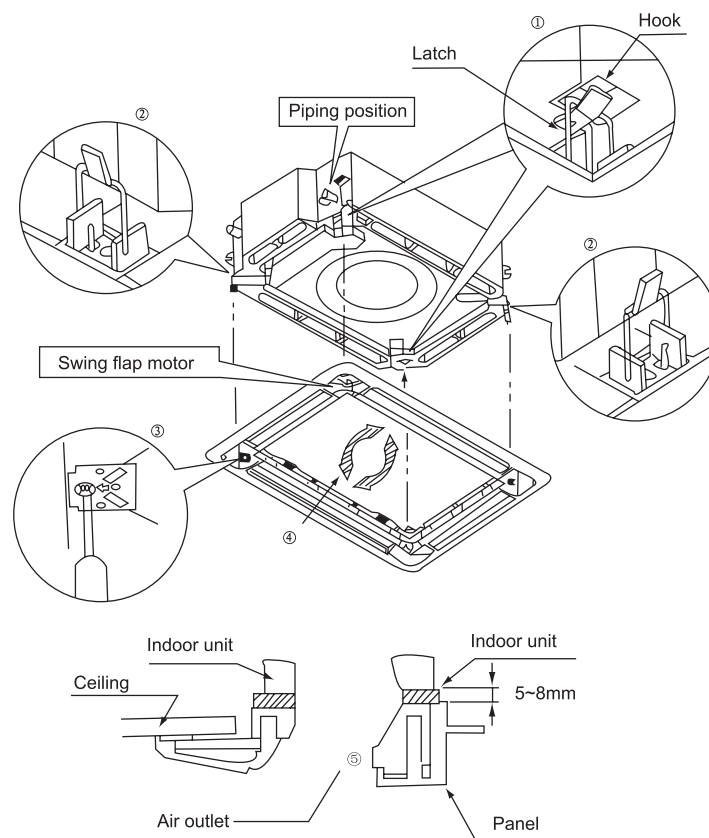

Figure 1-3-13
- a. Set the panel to the indoor unit body by matching the position of the swing flap motor of the decoration panel to the piping position of the panel to the piping position of the indoor unit as shown in Figure 1-3-13.